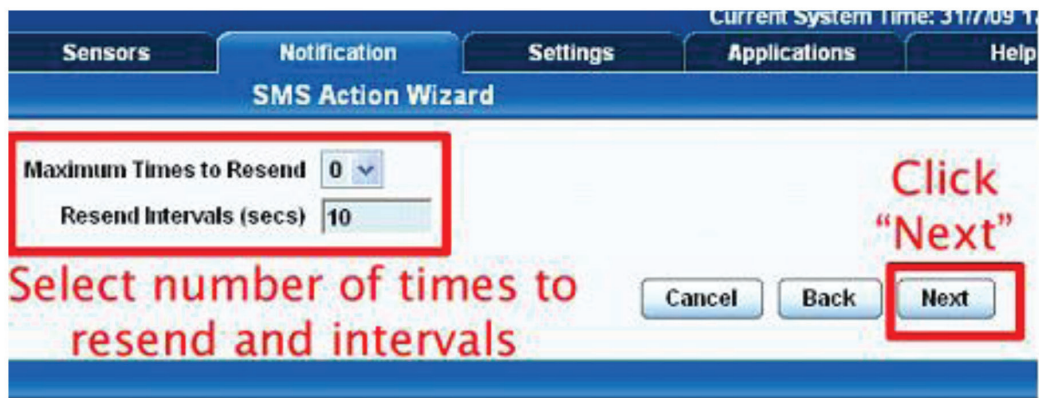

Figure 4-27. Select number of times to resend and intervals.
7. You will now be able to select the number of times you want the SMS to be resent and the interval between sending them. (See Figure 4-27.)